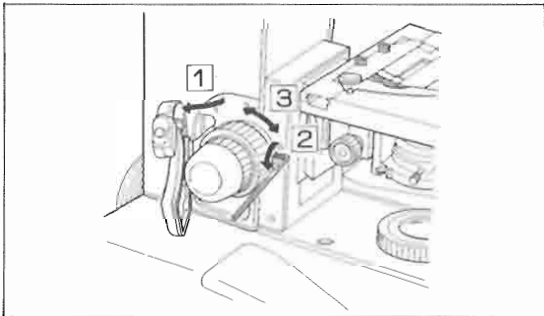

Fig. 12
- (1) Remove the three mounting screws holding the left-side control grip.
- (2) After loosening the two adjustment ring set screws using the supplied tool, rotate the ring to adjust the torque, then retighten the set screws. (Fig. 12)